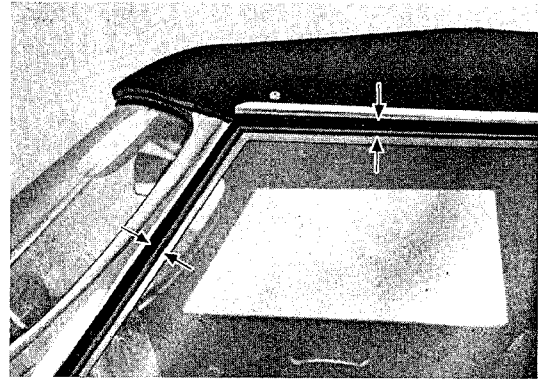

Fig. 84
- 8. Check the angle of the windshield post with respect to the door window and the top as shown in Fig. 84. The correct space is approx. 15 cm ($\frac{5}{8}$ in.) which can be adjusted by placing shims under the windshield post as required.